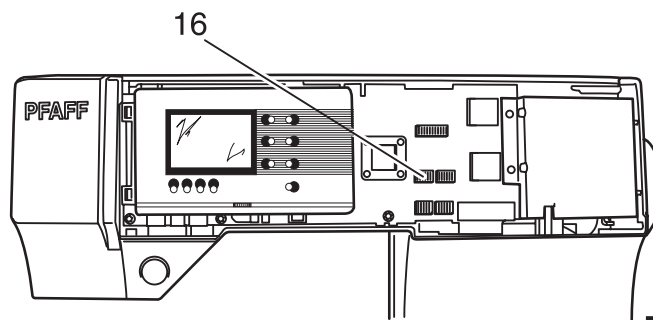

Fig. 113
- Remove connection plug 16 from the circuit board of the front housing panel and pull the cable downward (fig. 113).
- Mount connection plug 16 onto the circuit board of the front housing panel (fig. 113).